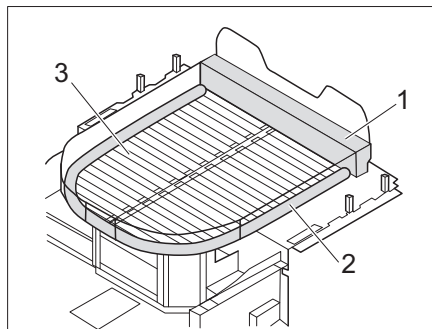

Fig. 175 Bed with mattress extension (with additional mattress and bed slats)
- Place the additional mattresses (Fig. 175,1 and 2) on the front side and around the queen size bed.
- Pull out the bed slats (Fig. 175,3).